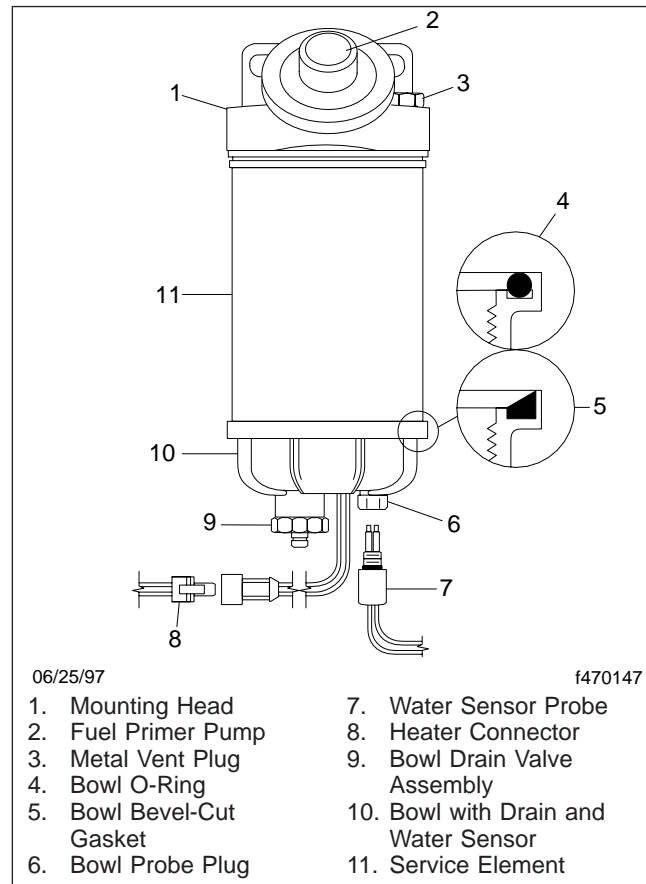

Fig. 4, Racor 490R Fuel Separator
1. Drain off some fuel by loosening the vent plug and opening the drain valve. See Fig. 4.